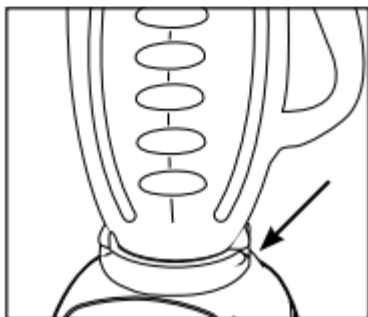

FIGURE 6
7. **Line up tabs of jar with tabs on blender base.** Make sure the tab of the jar on the *left* side is in the back of the tab of the blender base and the tab of the jar on the *right* side is in front of the tab of the blender base. Make sure jar is seated into position. (*Figure 6*)